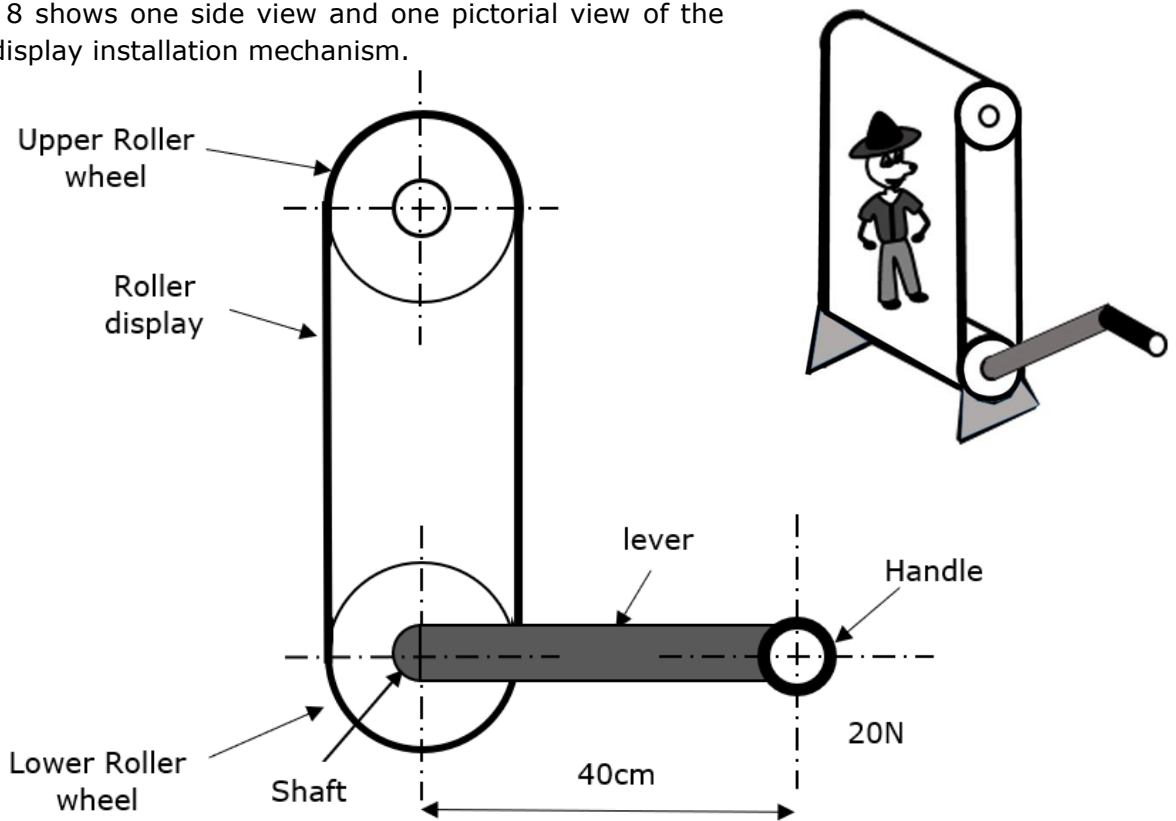

Figure 8
16. A roller display installation is placed in the kids' playing area. Figure 8 shows one side view and one pictorial view of the roller display installation mechanism.
a. Which class of lever is represented by the crank lever shown in Figure 8?
b. Add labelled arrows on Figure 8 to identify the effort and load and their direction. (2)
c. Calculate the moments being applied to the shaft of the lower roller wheel, by turning the handle clockwise with a force of 20N in Figure 8. (2)